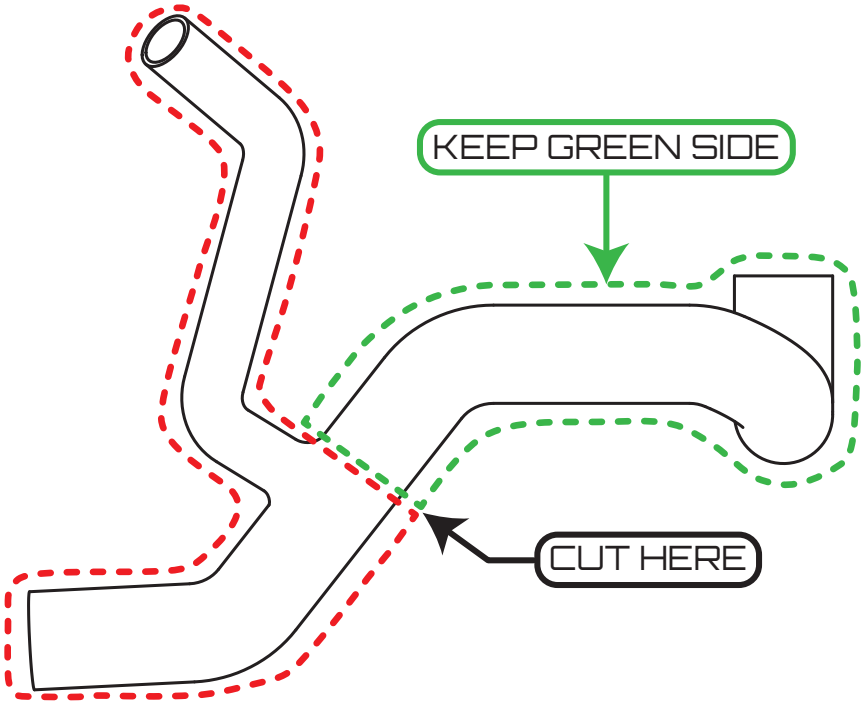

Figure 1 - Cut Line for EFR-800 Radiator Hose: SVT Cobra & Mach 1 Trims
- Modified EFR-800 silicone radiator hose cut with a sharp cutting tool along the green dotted line shown in Figure 1.